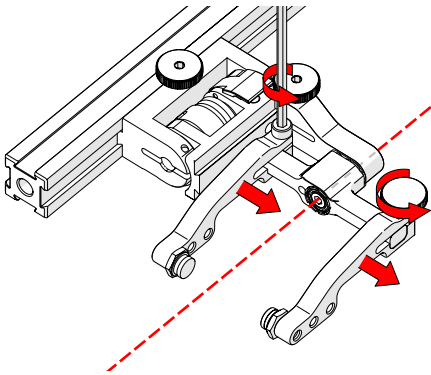

Fig. 106 - Adjust probe holder arms
5. Loosen the probe holder arm adjustment knob (Fig. 106) and remove outer probe holder arm from yoke.
6. Adjust the inner probe holder arm as required to best centre the probe on the yoke's pivot axis (Fig. 106).
**TIP:** The probe holder yoke can accommodate many different probe and wedge sizes of varying widths. It is best to centre the wedge with the yoke's pivot axis to reduce wedge tipping when scanning. Position the inner probe holder arm accordingly with the centre of the yoke (Fig. 106).